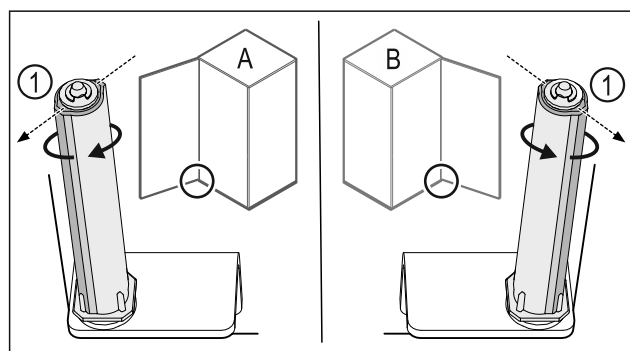

Fig. 54 Left-hinged (A) / Right-hinged (B)
- Turn the closing system against the resistance until the bar of the closing system Fig. 54 (1) points outwards.